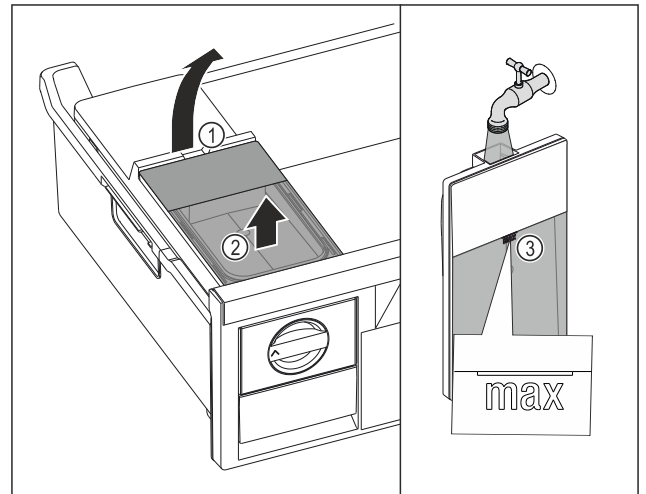

Fig. 103
- ▶ Lift the water tank at the recess *Fig. 103 (1)*.
- ▶ Remove the water tank by lifting it upwards. *Fig. 103 (2)*
- ▶ Fill the water tank with drinking water up to the mark *Fig. 103 (3)*.